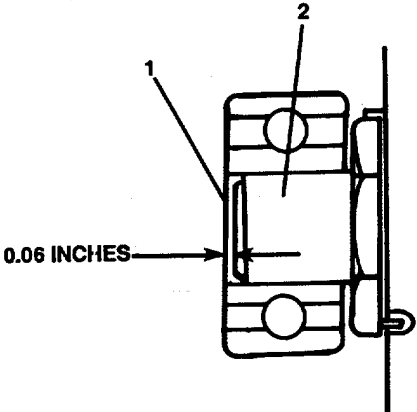

FIGURE 2-56. Bearing End Clearance.
- (1) Press the pilot annular ball bearing (2) onto the clutch shaft (33) by applying pressure to the inner race of the bearing.
- (2) Leave a distance of 0.06 inch between the front face of the pilot annular ball bearing (1, FIGURE 2-56) and the end of the clutch shaft (2).
- l. Install new instruction plate gasket (37) and instruction plate (35), and secure with two hexhead capscrews (36). Tighten capscrews to 11-13 ft-lb torque.